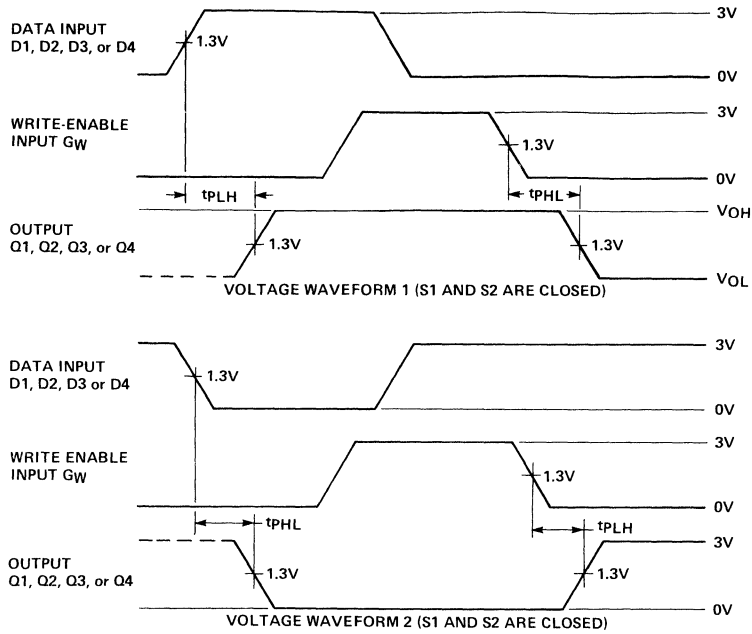

FIGURE 2
3. Latch time is the time allowed for the internal output of the latch to assume the state of new data. See Figure 2. This is important only when attempting to read from a location immediately after that location has received new data.